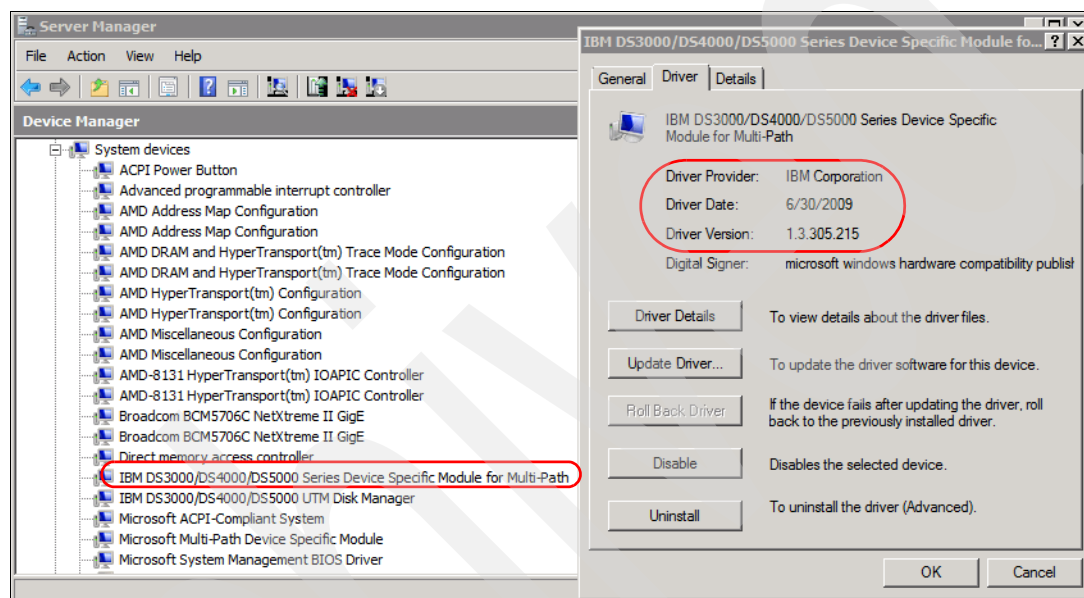

Figure 4-9 Verifying DSM driver level
3. Right-click it, select **Properties**, and check the **Driver** tab for the version, as shown in Figure 4-9.